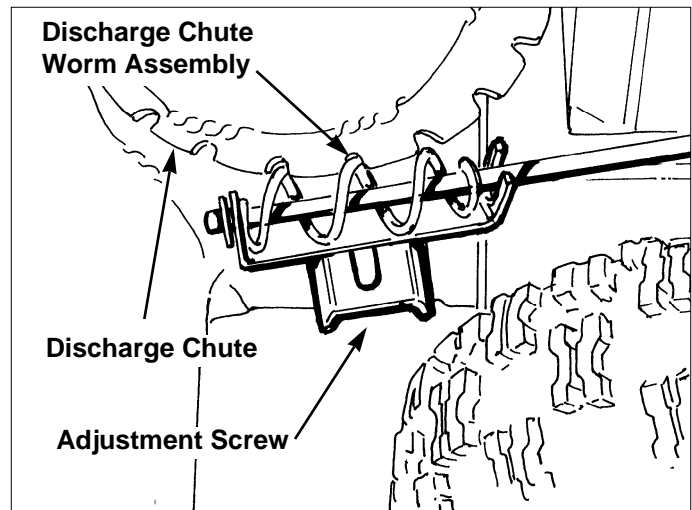

Figure 28. Discharge Chute Worm Adjustment
1. Loosen the adjustment screw under the Worm Assembly mounting area (Figure 28).